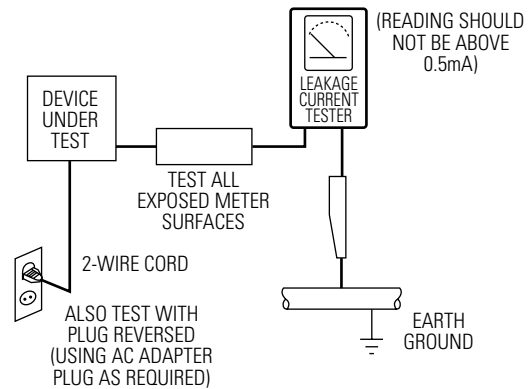

Fig. 1-1 AC Leakage Test
(2) Be sure that there are no cabinet openings through which adults or children might be able to insert their fingers and contact a hazardous voltage. Such openings include, but are not limited to, excessively wide cabinet ventilation slots, and an improperly fitted and/or incorrectly secured cabinet back cover.
(3) Leakage Current Hot Check-With the instrument completely reassembled, plug the AC line cord directly into a 120V AC outlet. (Do not use an isolation transformer during this test.) Use a leakage current tester or a metering system that complies with American National Standards Institute (ANSI) C101.1 Leakage Current for Appliances and Underwriters Laboratories (UL) 1270 (40.7). With the instrument's AC switch first in the ON position and then in the OFF position, measure from a known earth ground (metal water pipe, conduit, etc.) to all exposed metal parts of the instrument (antennas, handle brackets, metal cabinets, screwheads, metallic overlays, control shafts, etc.), especially any exposed metal parts that offer an electrical return path to the chassis. Any current measured must not exceed 0.5mA. Reverse the instrument power cord plug in the outlet and repeat the test. See Fig. 1-1.